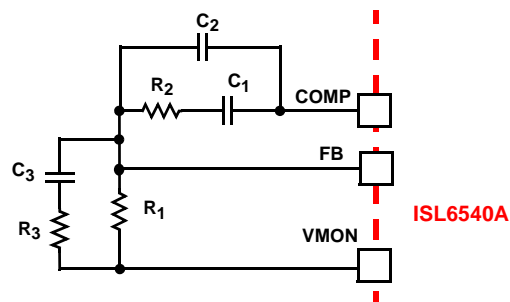

FIGURE 7. COMPENSATION CONFIGURATION FOR ISL6540A WHEN USING DIFFERENTIAL REMOTE SENSE
The ISL6540A single-phase converter is a voltage-mode controller. This section highlights the design considerations for a voltage-mode controller requiring external compensation. To address a broad range of applications, a type-3 feedback network is recommended (see Figure 7).
frequency ( $F_0$ ; typically 0.1 to 0.3 of  $F_{SW}$ ) and adequate phase margin (better than  $45^\circ$ ). Phase margin is the difference between the closed loop phase at  $F_{0dB}$  and  $180^\circ$ . The equations that follow relate the compensation network's poles, zeros and gain to the components ( $R_1$ ,  $R_2$ ,  $R_3$ ,  $C_1$ ,  $C_2$ , and  $C_3$ ) in Figures 7 and 9. Use the following guidelines for locating the poles and zeros of the compensation network:
1. Select a value for  $R_1$  (1k $\Omega$  to 10k $\Omega$ , typically). Calculate value for  $R_2$  for desired converter bandwidth ( $F_0$ ). If setting the output voltage to be equal to the reference set voltage as shown in Figure 7, the design procedure can be followed as presented. However, when setting the output voltage via a resistor divider placed at the input of the differential amplifier (as shown in Figure 9), in order to compensate for the attenuation introduced by the resistor divider, the below obtained  $R_2$  value needs be multiplied by a factor of  $(R_{OS}+R_{FB})/R_{OS}$ . The remainder of the calculations remain unchanged, as long as the compensated  $R_2$  value is used.